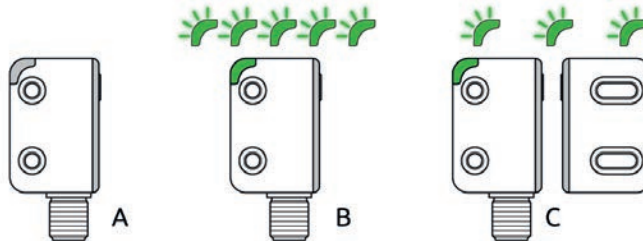

Figure 31 - Teach-in signals
- Power on the SSF sensor (Figure 31, condition A).
- After power on, the sensor will be ready for pairing with the actuator (Figure 31, condition B).
- When the actuator is approaching the RFID sensor at a distance < 2mm, the sensor is programmed after 5 seconds (Figure 31, condition C).